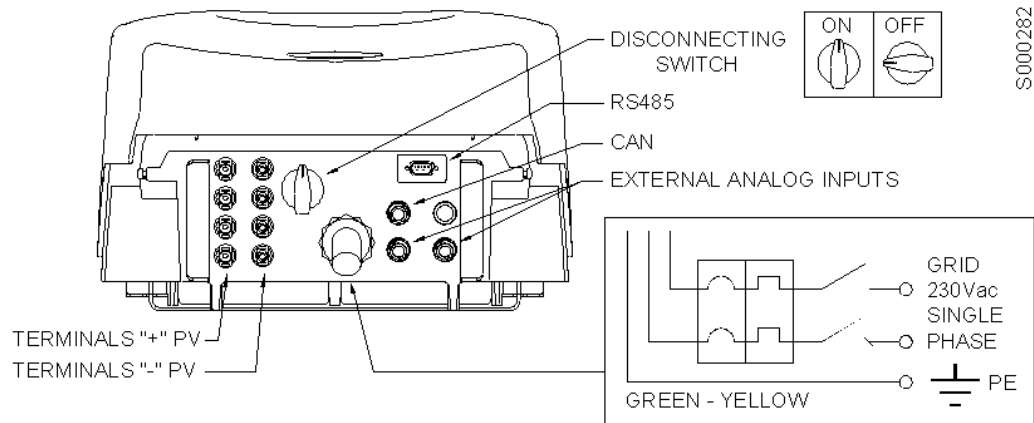

Figure 15: SUNWAY M XS connectors
After removing the connector cover, the connector panel may be accessed as shown in Figure 15.
- 2) If the DC disconnect switch (optional) is fitted, set it to **OFF** (Figure 15).
- 4) If the DC disconnect switch (optional) is fitted, set it to **ON** (see Figure 15).